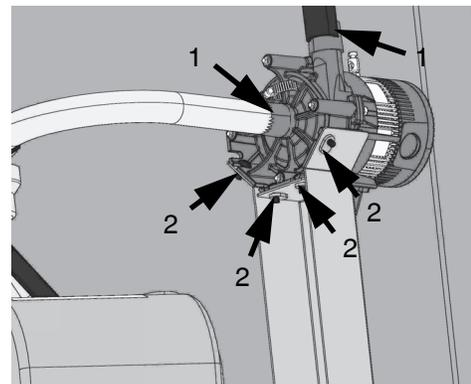

Figure 68..
6. Remove screw that secures the pump on the bracket as shown in Figure 68.